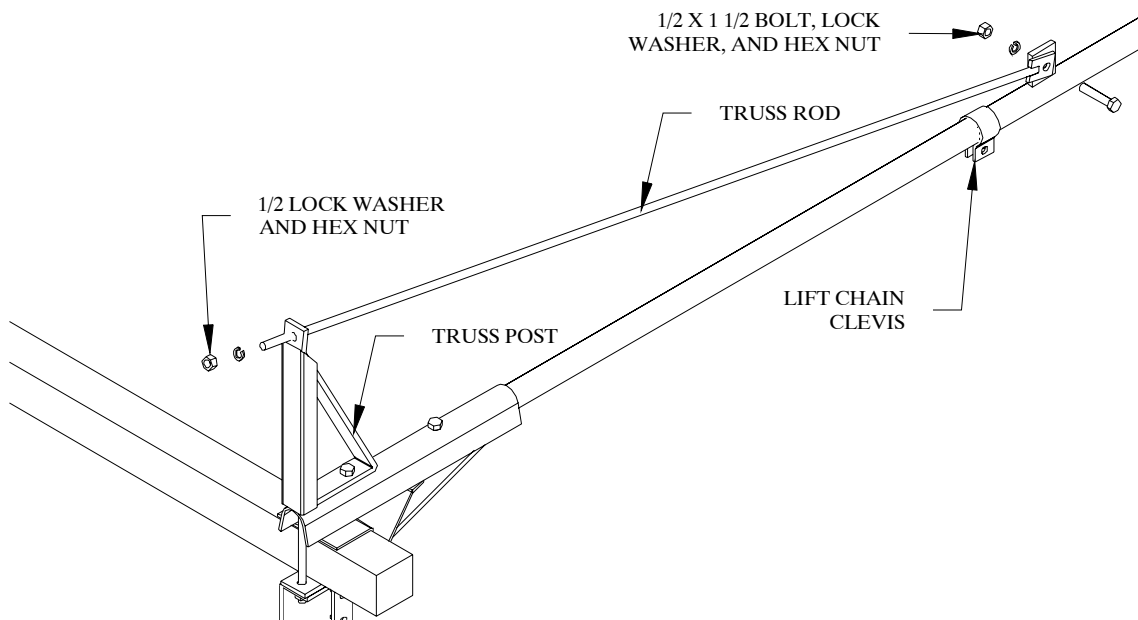

Figure 2
2. Bolt a Truss Rod to each of the lift arms using $\frac{1}{2}$ x $1\frac{1}{2}$ bolts, lock washers and hex nuts. Refer to figure 2 for proper orientation. Be sure that the threaded end of the Truss Rod is inserted into the Truss Post on the Toolbar. If there is a lift arm in the center of the unit The Truss Rod end gets inserted into the tab on top of the 3-point attachment frame.
3. Bolt the Truss Rod to the Truss Post using $\frac{1}{2}$ lock washers and hex nuts. Refer to figure 2.
4. Slip a Lift Chain Clevis over the Lift Arm halfway back from the front Toolbar as shown in figure 2.